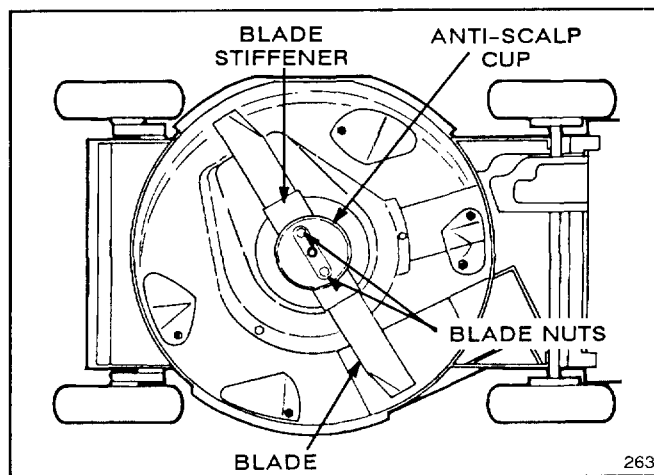

Figure 13
3. Tip mower on its right side (Fig. 13). Avoid rotating blade as starting problems may result.
5. **REMOVING BLADE** -- Grasp end of blade using a rag or thickly padded glove. Remove (2) blade nuts, anti-scalp cup, blade stiffener, and blade (Fig. 13).